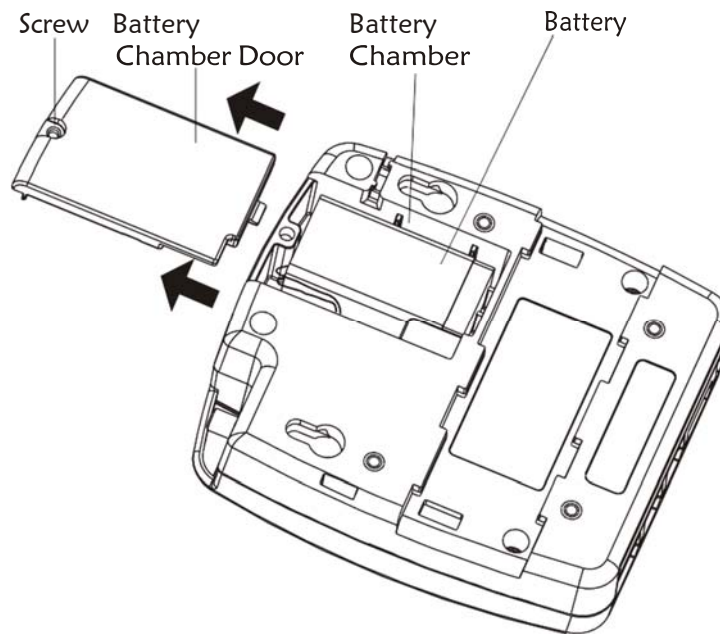

Figure 10
Place a standard 9VDC alkaline battery (not supplied) into the PIU battery chamber (see Figure 10). Battery operation is applicable when operating the unit in a non-radio mode, e.g. when the PIU is used as an adapter.
1. Release the screw at the top of the battery chamber door, and slide the door out, as shown in Figure 10.
4. Place the 9V DC alkaline battery in the chamber as shown in Figure 10.
1. Release the screw at the top of the battery chamber door and slide the door out, as shown in Figure 10.